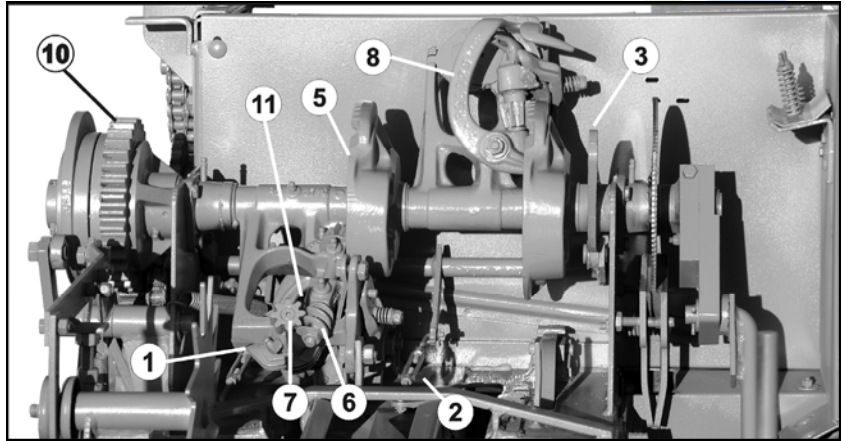
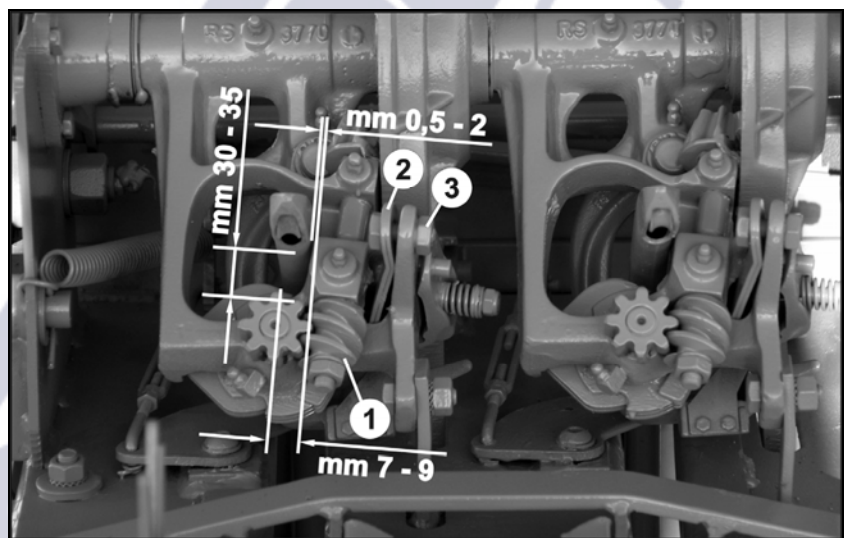
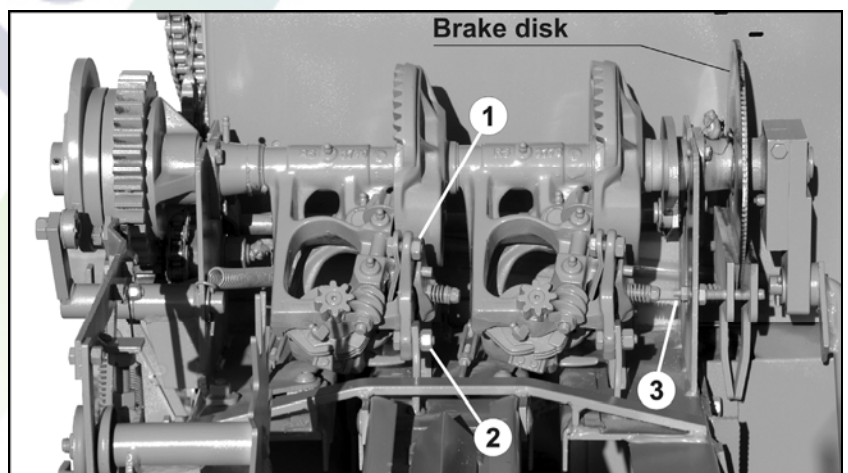
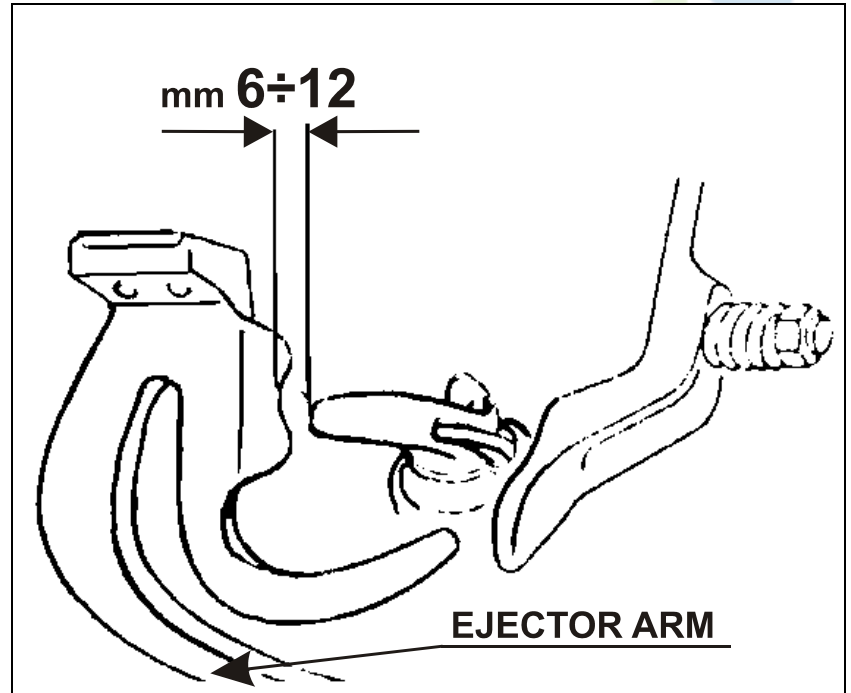

Fig. 15
Fig. 17
Fig. 9
Fig. 19
2. Give a sharp blow on the nut with a hammer in the direction of the pivot where it moves in order to disinsert the screw gear (no. 6 Fig. 15) which is fixed by a taper.
4. Turn the screw gear in anti-clockwise way to make it get in touch with the gear (no. 7 Fig. 15), to eliminate the influence of any clearance in the adjustment.
The pressure adjustment is made working on screw no.1 Fig. 9 and no. 2 Fig. 17 after loosening the lock nut no. 3 Fig. 17.
The ejectors and knife holding arms no. 8 Fig. 15, must cut the excess twine and it must take away the knots of the knoter hooks.
3. The tongue in its own effect movement must go beyond the hook end not less than 6 mm. and not more than 12 mm. (Fig. 19). The check the adjustment of the ejectors arms and sharpen the knives take bolts 2 away (Fig. 9) (the knotters group you are dealing with) and lift to the top the knoter group as show in Fig. 15).